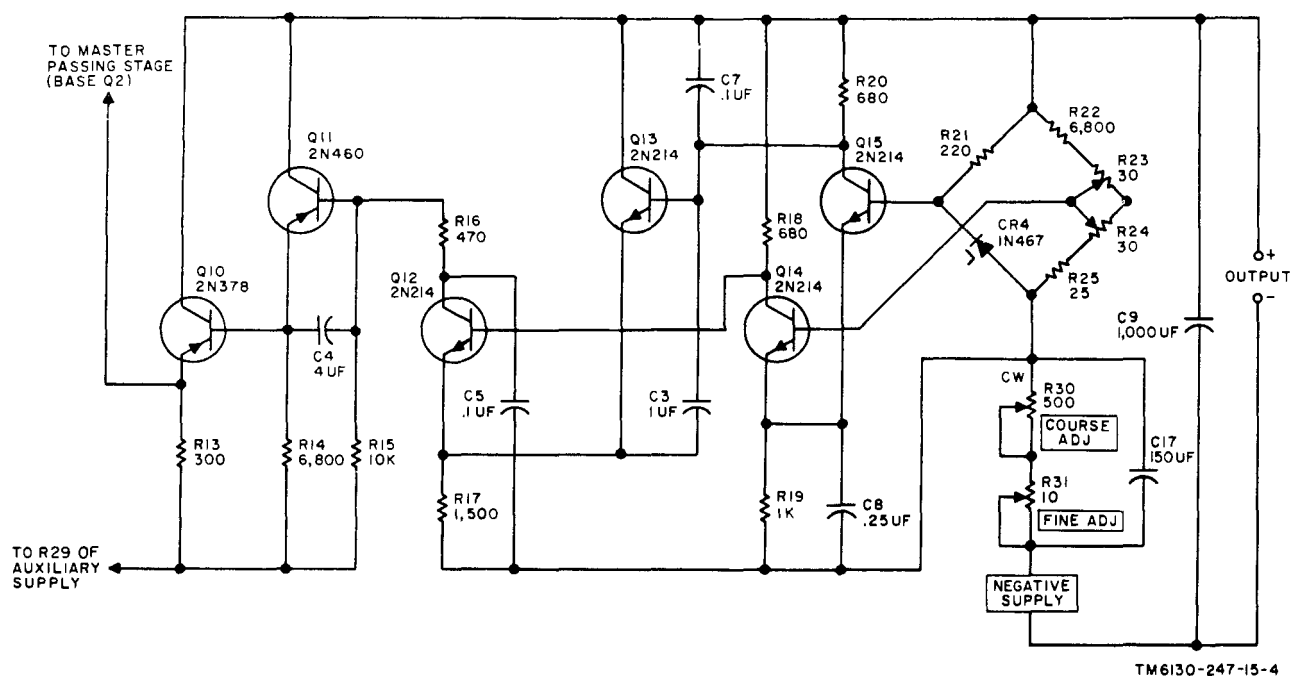

Figure 4-3. Main control circuit, simplified schematic diagram.
*g.* In the circuit of figure 4-3, a change in the load impedance will affect the loop currents in the passing stages as well as in the sensing bridge. The master and slave control circuits will adjust the base bias current in the passing transistors to hold the load voltage constant.
#### 4-3. Detailed Function of Main Control Amplifier (fig. 4-3)